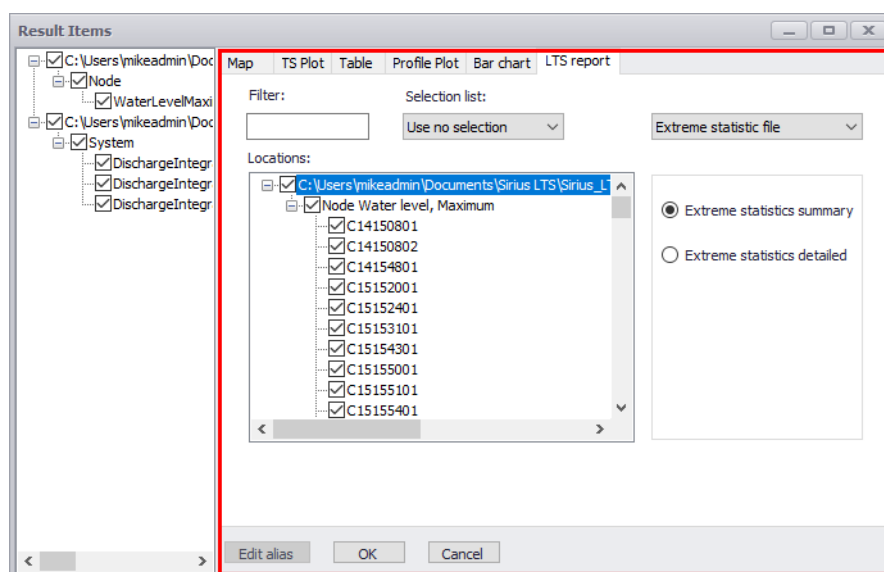

Figure 20.67 The LTS Report tab on the Result Items dialog
LTS statistics reports can be generated through the LTS Report tab on the Result Items dialog (Figure 20.67). The following types of LTS Reports could be generated:
- Access the ‘LTS Report’ tab on the ‘Result Items’ dialog (Figure 20.67).